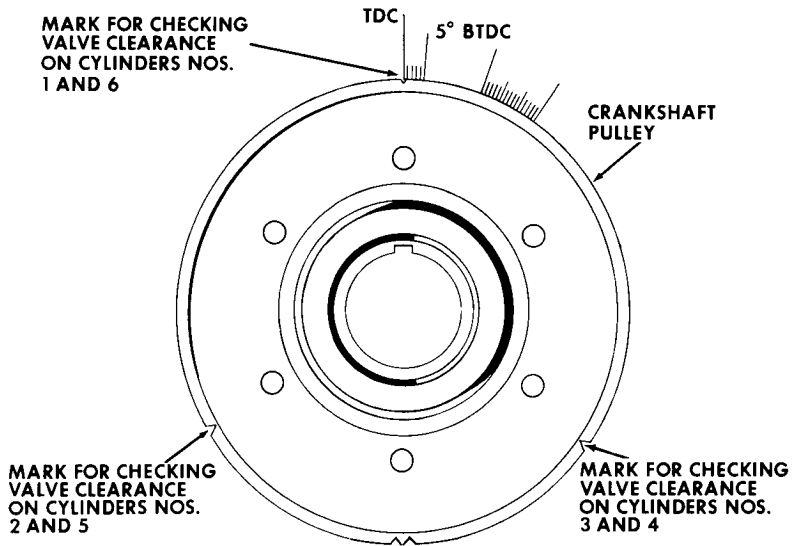

Figure 66
A. Crank the engine slowly, until the crankshaft pulley is in the position shown in Figure 66. (Mark for checking No. 1 cylinder must be aligned with pointer).